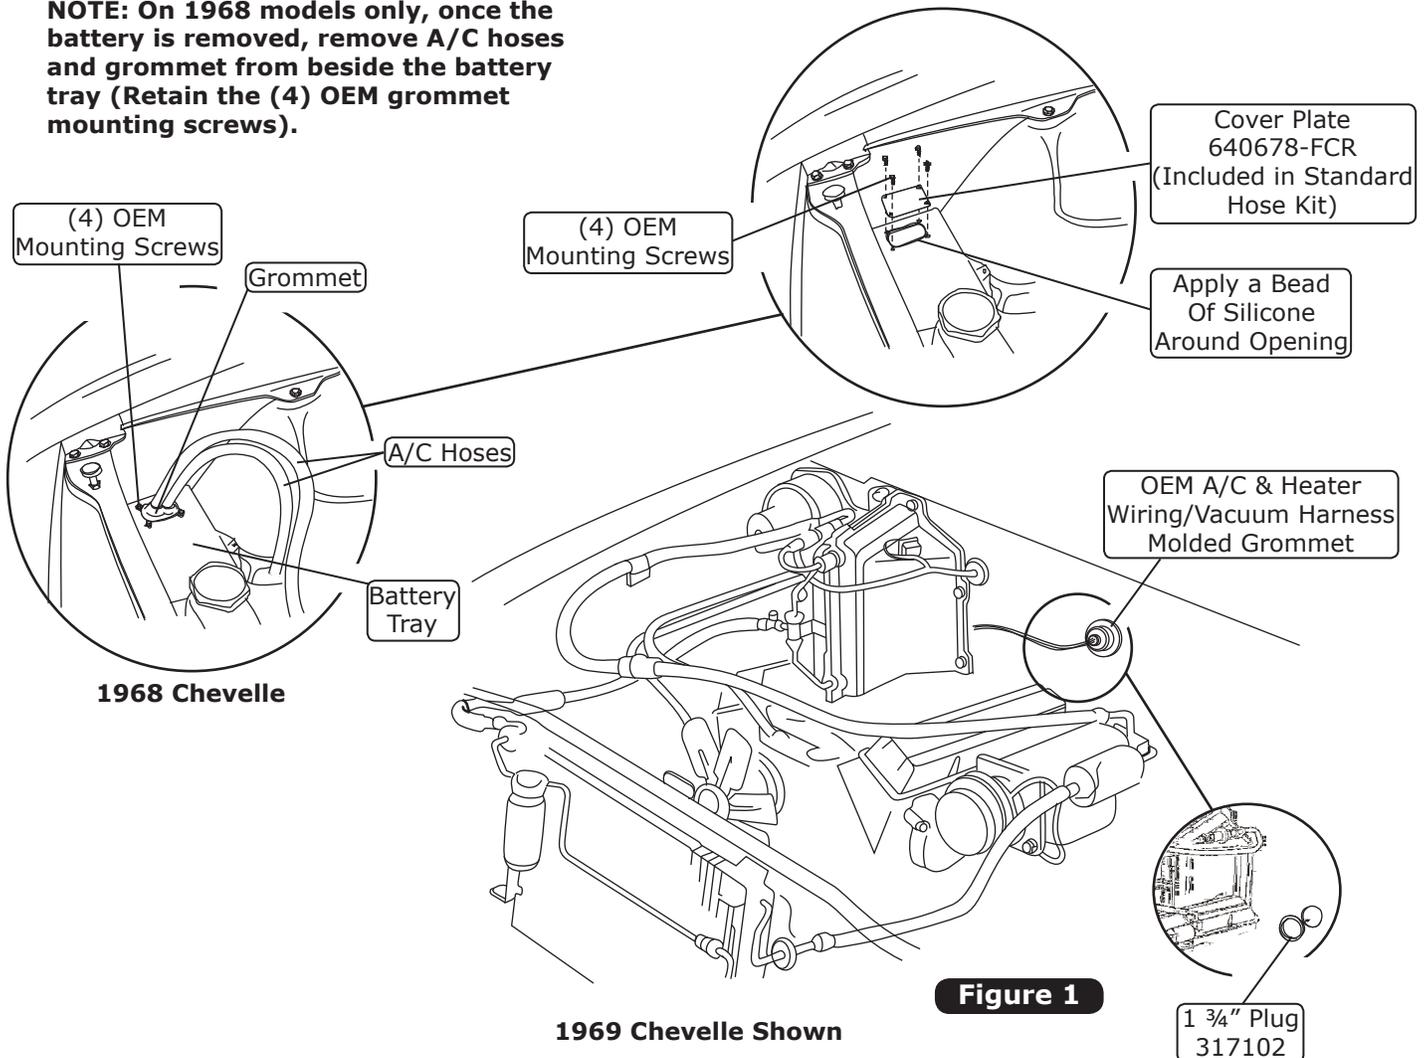

Figure 1
5. Remove the OEM condenser and drier (discard) (See Figure 1, below).
6. Remove OEM A/C lines from compressor to evaporator (discard) (See Figure 1, below).
7. Remove OEM compressor and bracket (discard) (See Figure 1, below).
9. Remove OEM heater hoses, A/C hoses, hardlines and drier (discard) (See Figure 1, below).
10. Remove A/C and heater wiring/vacuum harness molded grommet (See Figure 1, below).
11. Install a 1 3/4" plug in the firewall as shown in Figure 1, below.